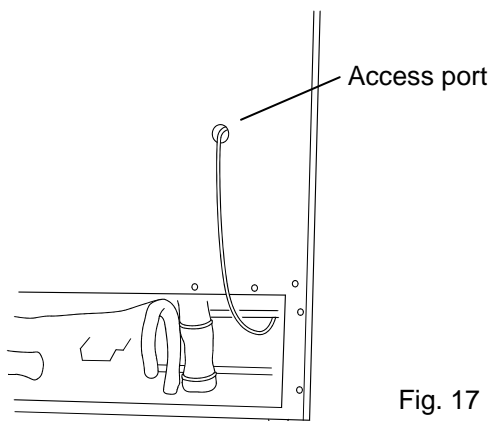

Fig. 17
7. Pass the recorder sensor into the chamber through the access port. Fig. 17